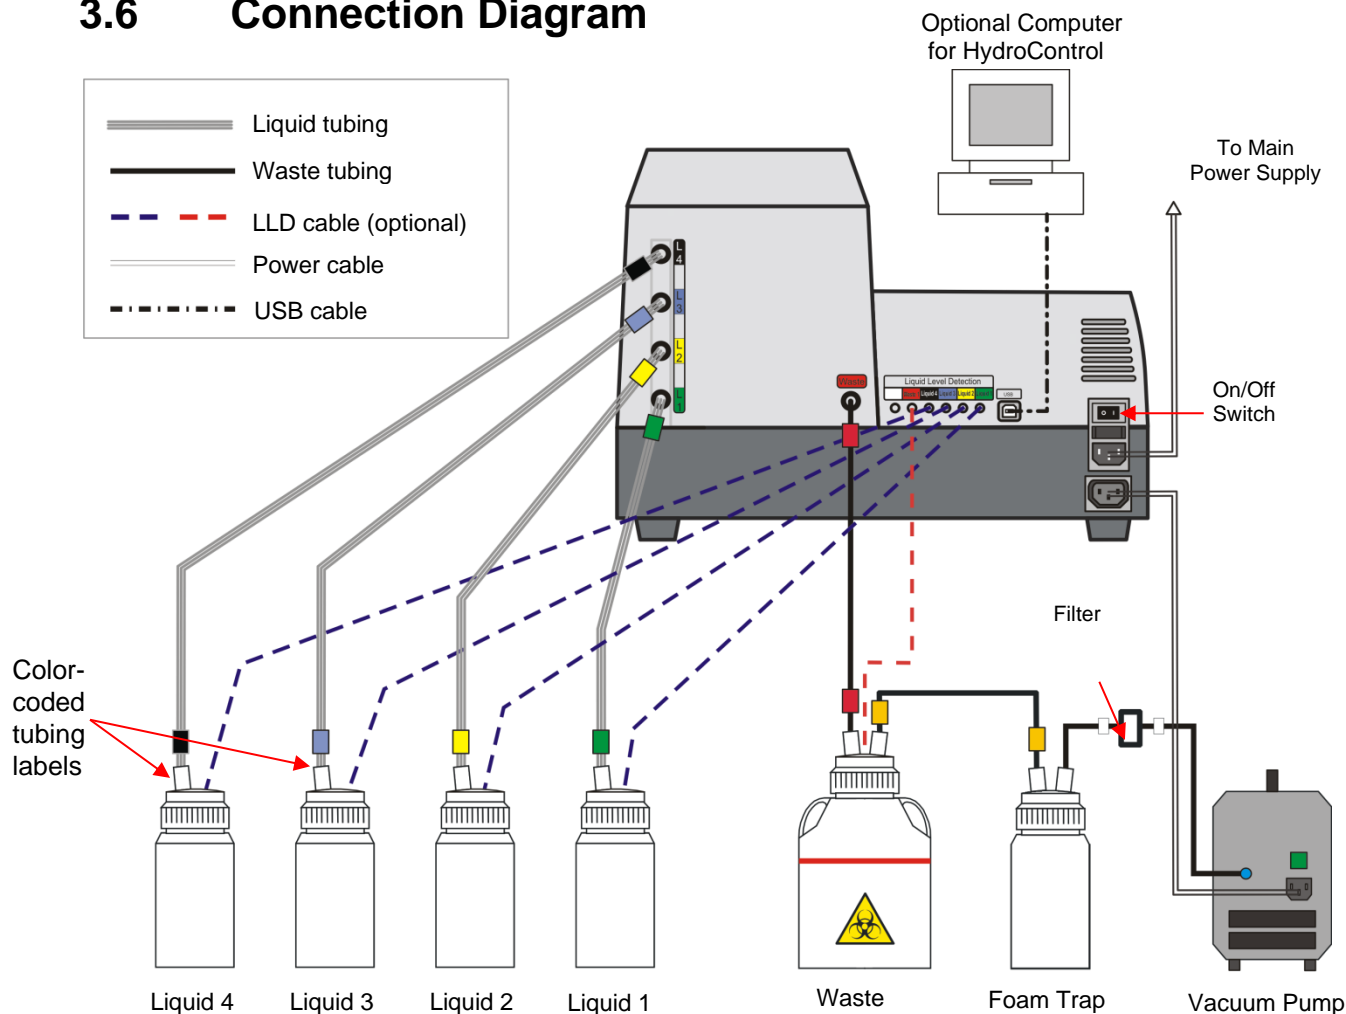

Fig. 2 Connection Diagram
6. Connect the waste bottle to the foam trap using the color-coded tube provided (see Fig. 2 Connection Diagram).
7. Connect the foam trap to the vacuum pump using the tube with the built-in filter (see (see Fig. 2 Connection Diagram)).